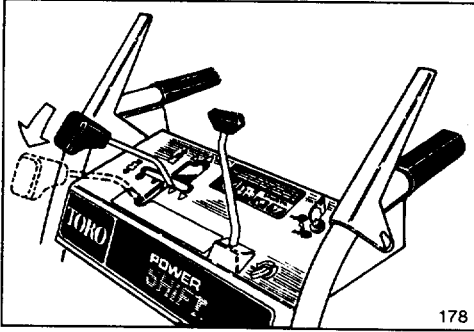

Figure 9
5. Manually move wheels to the rear Power Shift position by lifting up on handles and moving the shift control fully forward to Power Shift position (Fig. 9).